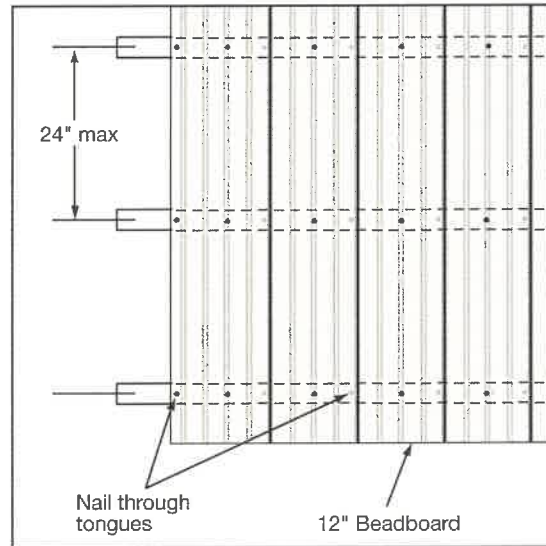

Fig. 37
- **12" wide Beadboard:** Should be fastened with 2 nails with one nail through the tongue and one face nail (**Fig. 37 & 38**)